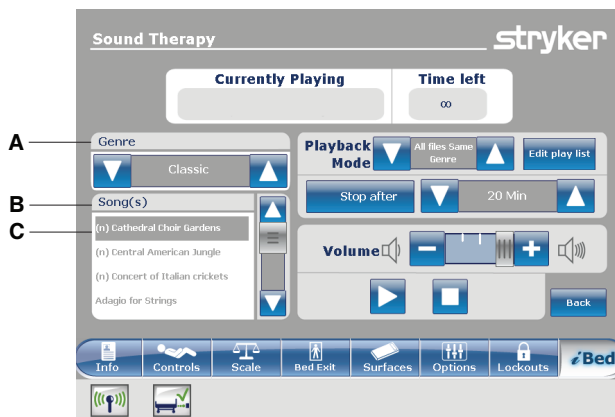

Figure 115: Sound therapy
2. Tap the up and down arrows to select a genre (A) (Figure 115 on page 103).
3. Tap the up and down arrows to scroll through the available songs in the **Song(s)** area (B) (Figure 115 on page 103).
Note: The song that is currently selected is highlighted in gray (C) (Figure 115 on page 103).
To return to the **iBed** main menu, tap **Back** (Figure 115 on page 103).
Tap **Edit play list** (Figure 115 on page 103).